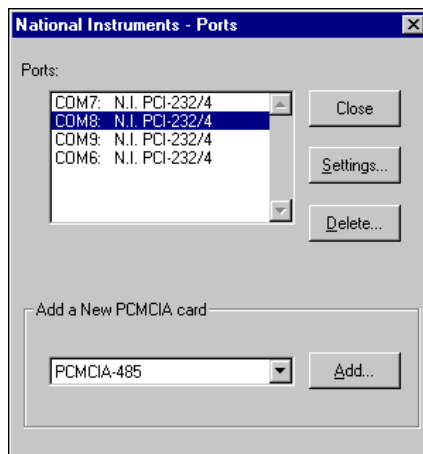

Figure C-3. Selecting an Interface to Uninstall
3. From the **Ports** list, select the port of the board you want to uninstall, as shown in Figure C-3.